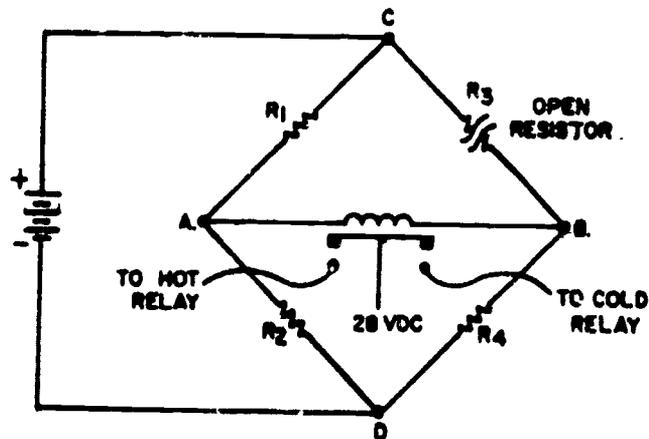

Figure 13.
(1) Using a green pencil and the Z pattern, trace from point D up to point A. So far the circuit looks ok., now trace across from point A to point B then up to the broken path (resistor R-3) of the circuit.
(2) At this point the circuit has an incomplete path and current could not flow on to point C or anywhere. (You must have a complete path for current to flow.) Seeing as how you don't have a complete path from this point to C and on to positive, there is NO ACTION on the micropositioner coil and it remains in the neutral position (neither relay on).
(3) So now you must go back to point D and start the Z pattern in the opposite direction. Use figure 13 shown below, in this procedure.